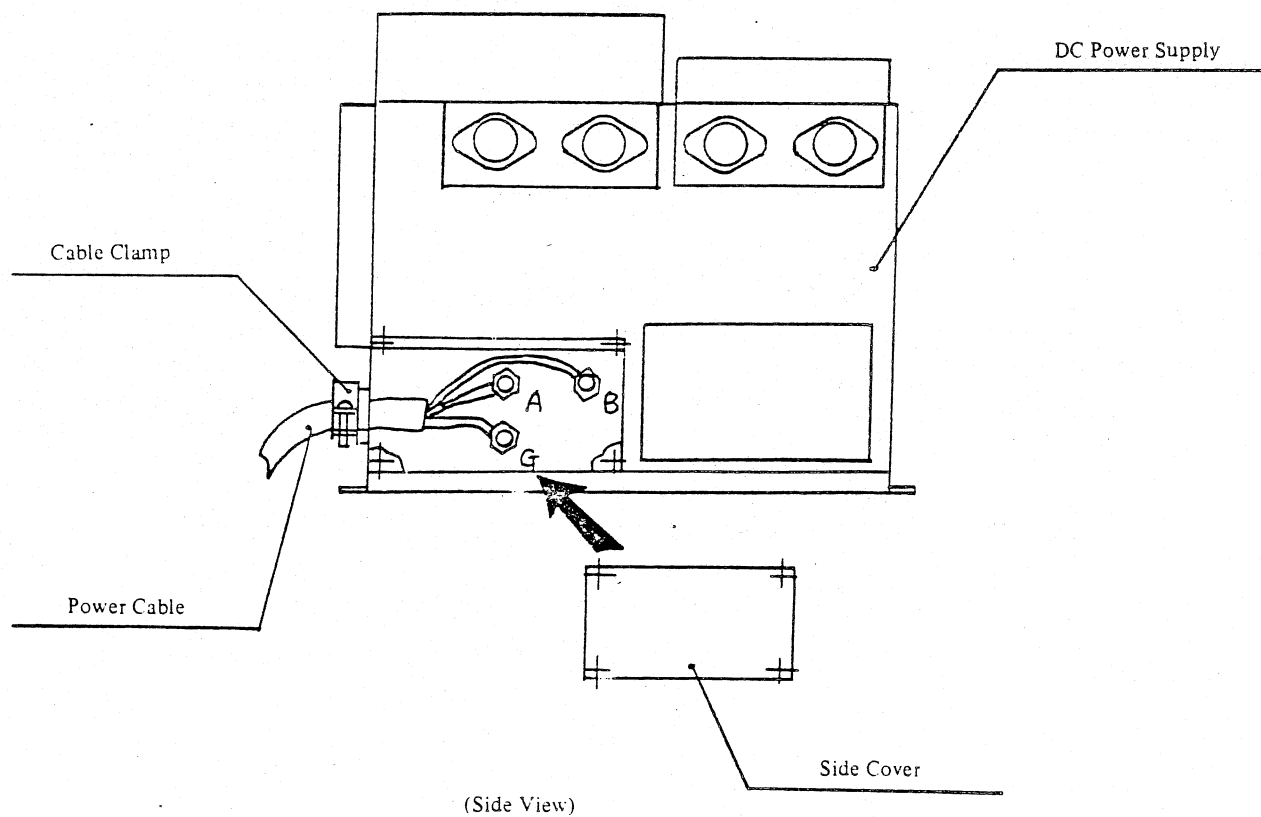

Figure 13.10-1 Installation of a Power Cable
2. Remove the side cover by loosening 4 screws as shown in Figure 13.10-1.